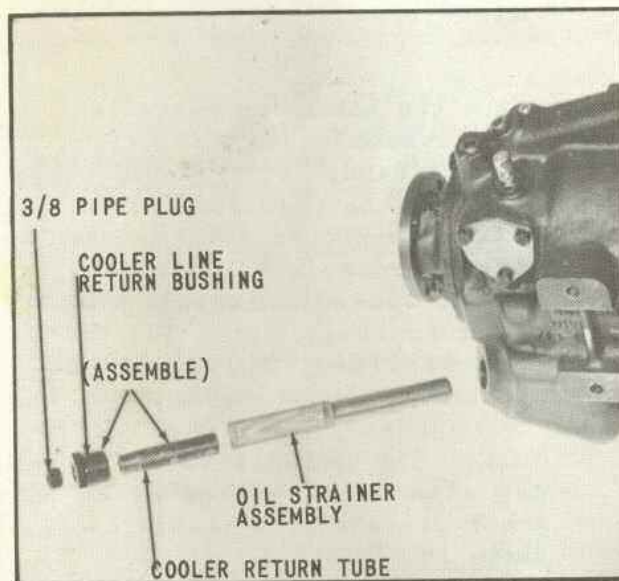
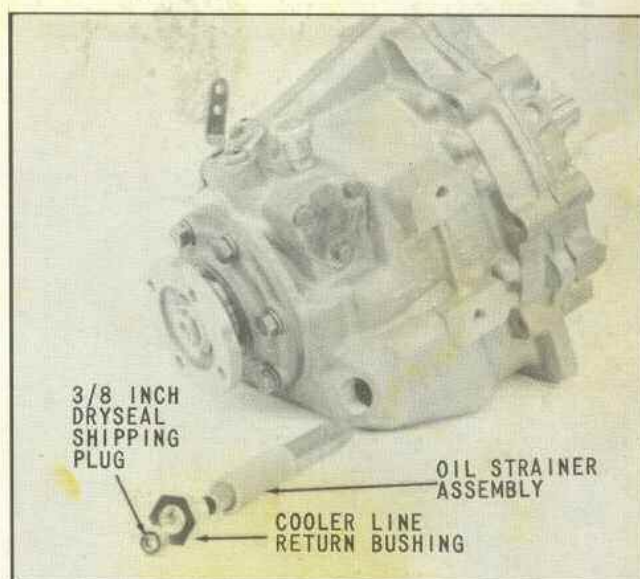

Fig. 77 Installing Oil Strainer & Cooler Return Tube & Bushing Assembly
Fig. 86 Installation of Oil Strainer Assembly and Cooler Line Return Bushing
77. Assemble the oil strainer assembly, cooler line return bushing and cooler return tube assembly in the order shown in (Fig. 77). The screen end of the oil strainer assembly should be approximately 1/2 inch below the face of the case when the assembly is correctly installed.
2. Assemble the oil strainer assembly (71B-A98) and cooler line return bushing (4885A) in the order shown in (Fig. 86). The small end of oil strainer assembly should protrude out of tapped hole in case approximately 1/16 inch when installed to full depth.
NOTE: Bushing (4885B) illustrated in (Fig. 77) as used with present oil strainer assembly, may be used with the old oil strainer assembly (71B-A98) shown in (Fig. 86). On the other hand, the old bushing (4885A) is not threaded the entire length of its internal thread. Therefore, it cannot be assembled with the cooler return tube (71C-84 shown in (Fig. 77)). Either complete assembly of parts, illustrated in (Fig. 77) or (Fig. 86), can be used as they are interchangeable.